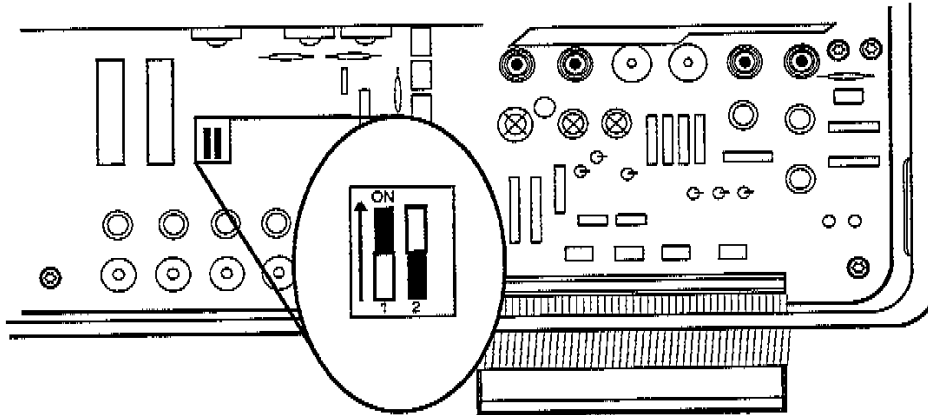

Figure 4-12. Location of defeat switch for /SPLYON signal.
- This signal may be defeated for troubleshooting purposes by closing position #1 of a 2-section switch located on the A5A1 Primary Power supply board (Figure 4-12).